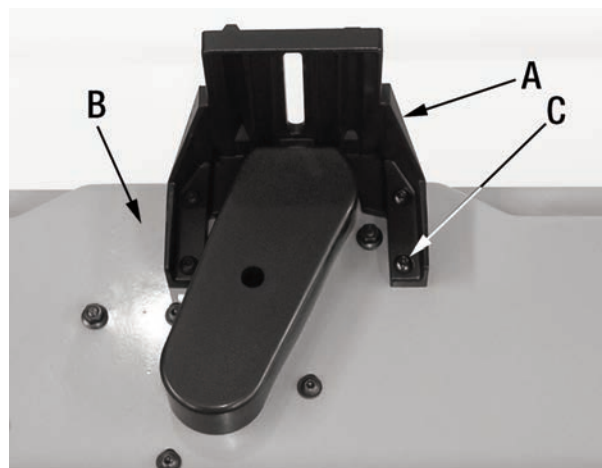

FIGURE 4
- 1) Attach the fence support arm (A) Fig.4 to the rear of the cabinet (B) using 4 round head allen screws (C).